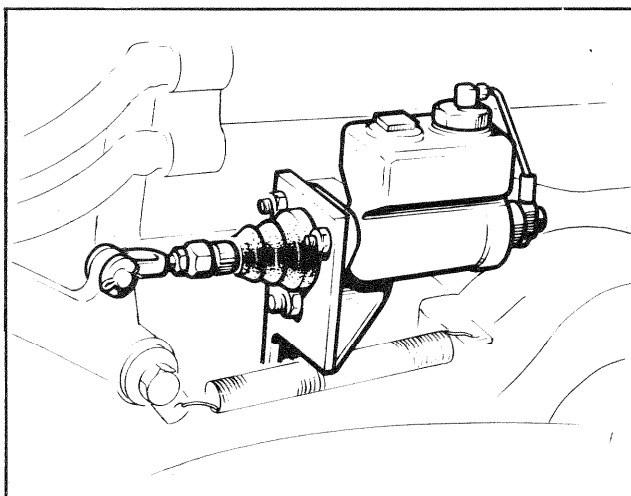

Fig. 13-1 Brake Master Cylinder
The Service Brake Master Cylinder is located below firewall on the left hand side (see Fig. 13-1)
Always check and adjust the pedal free travel as follows: Fig. 13-1.
**Brake Master Cylinder** — Remove the left-hand side panel from the machine. For location of the master cylinder see Fig. 13-1. Maintain the fluid level to within .25 inch (6.4 mm.) from the top of the reservoir. Add only, do not change the fluid. Use fluid specified in Section 16.